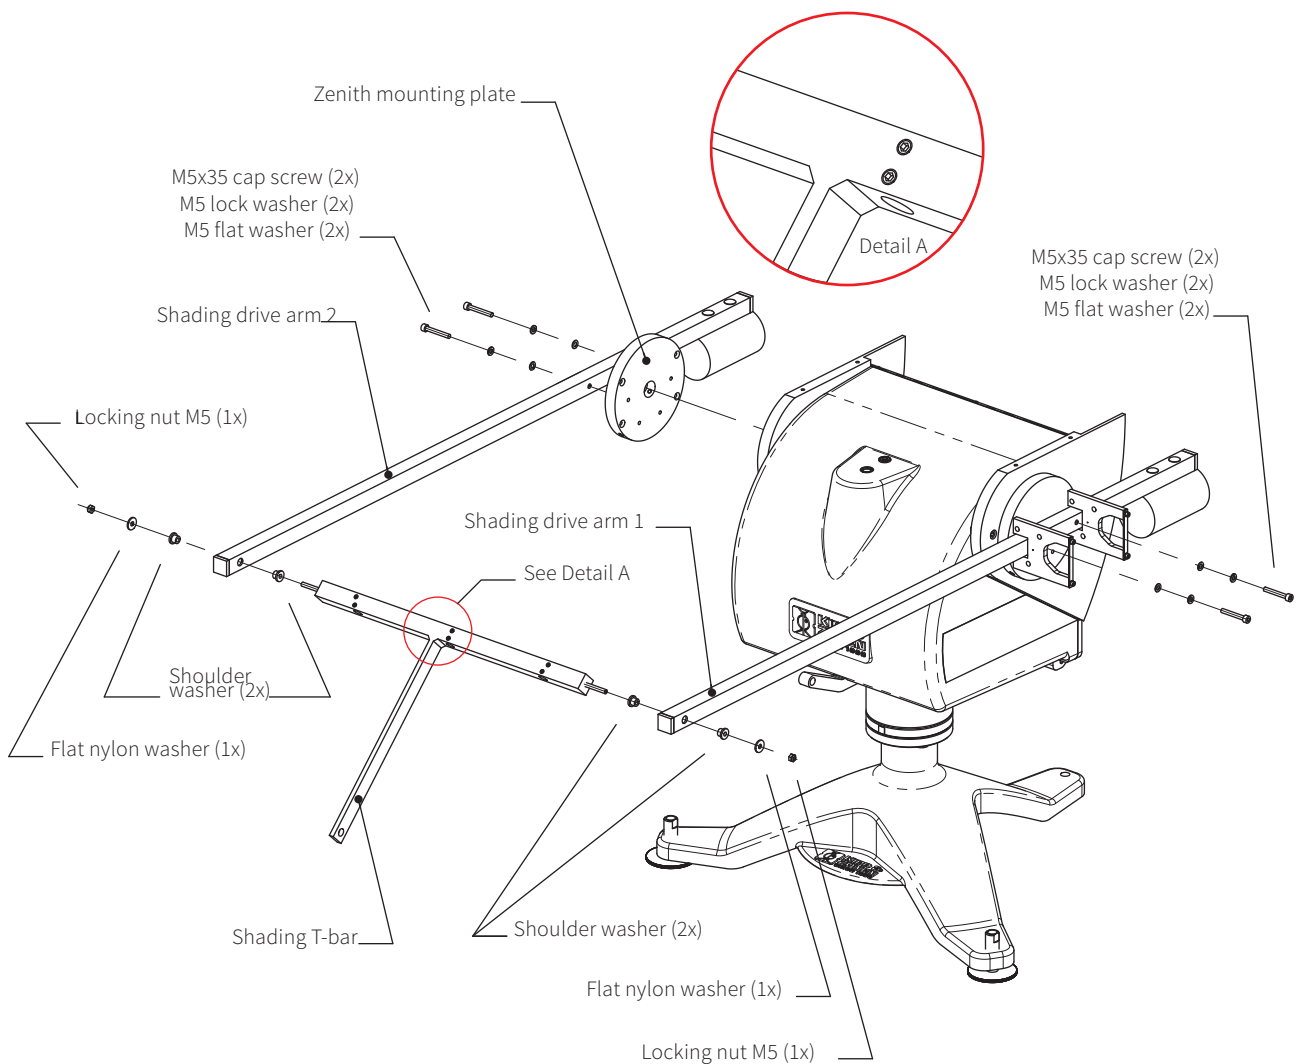

Figure 3.16. Mounting of the shading drive arm
- Attach both the shading drive arms with the designated screws. Ensure the counter weights are facing down. Do not completely tighten the screws yet, some movement for installing the T-bar is required, see figure 3.16.
- Tighten the shading drive arm screws and mount the second side plate to the axis with its two screws after aligning the two shading drive arms, see figure 3.16.